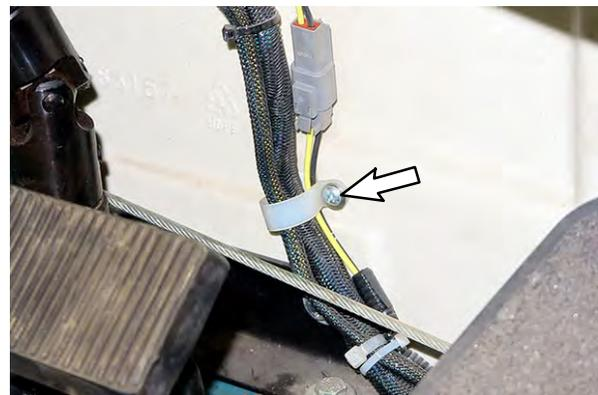

FIG. 7
- Remove the hardware securing the p-clamp/main wire harness to the front shroud. Set the hardware aside. Leave the p-clamp installed on the main wire harness. (Fig. 7)